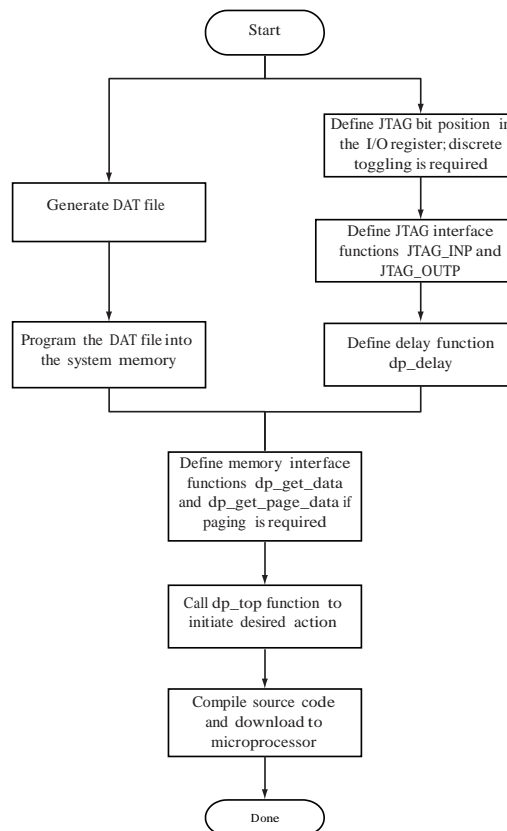

Figure 2-1 • Importing DirectC Files
Figure 2-1 shows the DirectC integration use flow.
2. Modify the DirectC code. Refer to flow chart in figure 2-1.